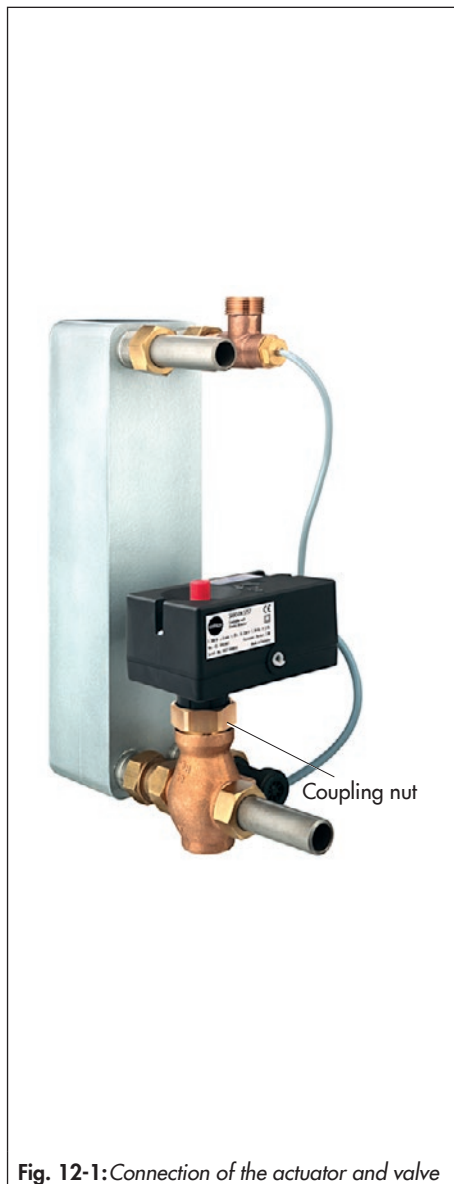

Fig. 12-1: Connection of the actuator and valve
2. Undo the coupling nut and remove the actuator from the valve connection (see Fig. 12-1).